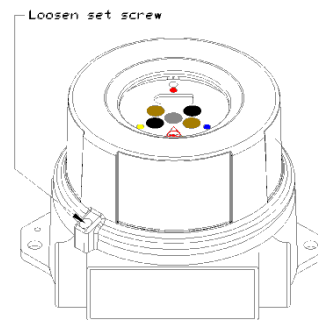

Figure 2-5
4. Loosen the set screw on the enclosure lid (see *Figure 2-5*).